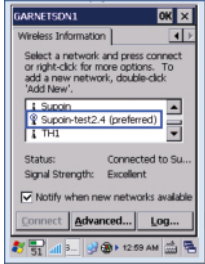

Figure4-5
- 2) Choose option 'Wireless information', as figure 4-5, choose a wireless Network.